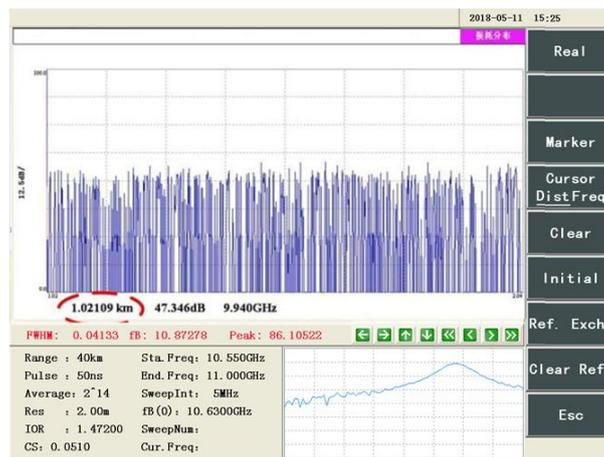

Figure 9-6 Loss distribution curve when the starting point is set incorrectly
4. The starting point of test is set incorrectly and exceeds the length of the fiber under test, the loss distribution curve shown in Figure 9-6 will appear (in this figure, the measurement starting point is 1.02109km, and the actual length of the fiber is 1km).